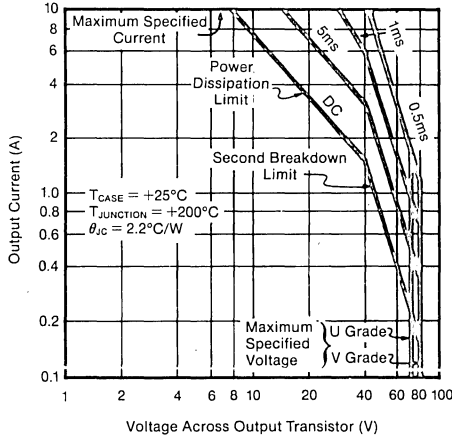

FIGURE 7. Transistor Safe Operating Area at +25°C Case Temperature.
8.5 Safe operating area (SOA). In addition to the limits imposed by power dissipation, the amplifier's output transistors are also limited by a second breakdown region. This occurs because of increased emitter current density due to current crowding at higher operating voltages. Both the dissipation and second breakdown limits depend on time and temperature. Figure 7 shows each output transistor's SOA at a case temperature of +25°C.